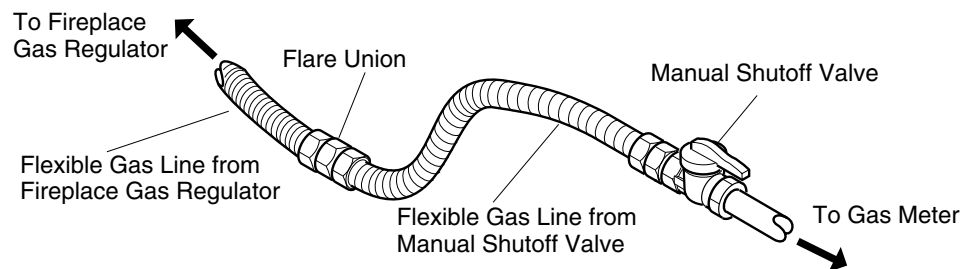

Figure 19 - Attaching Flexible Gas Lines Together
4. Attach a 45° flare union gas connector to flexible gas line from gas supply (see Figure 19). Connect flare union to flexible gas line attached to gas regulator of fireplace (see Figure 19).